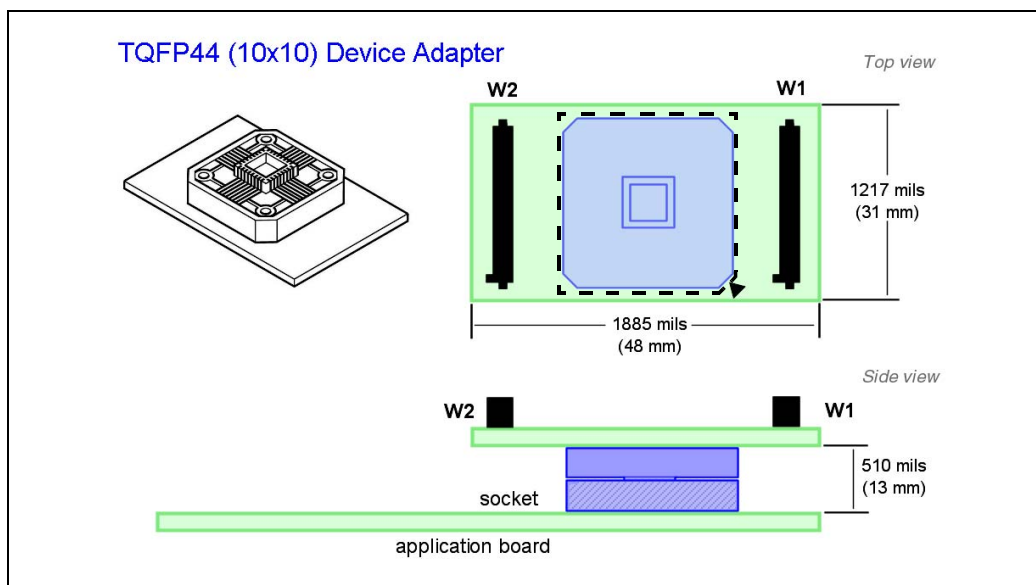

Figure 9: Device adapter critical dimensions
- 1 Solder the TQFP44 (10 x 10) socket on to your application board. Keep in mind, when designing your application board you should ensure that there will be enough room to accommodate the device adapter (Ref.: DB613), which will connect to the socket in place of your MCU (see Figure 9).